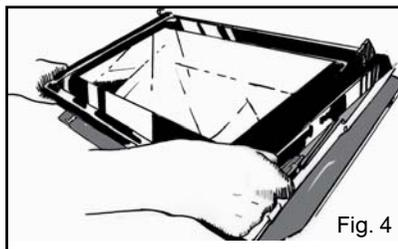

Fig. 4
- Remove the frame and the glass (Fig. 4).